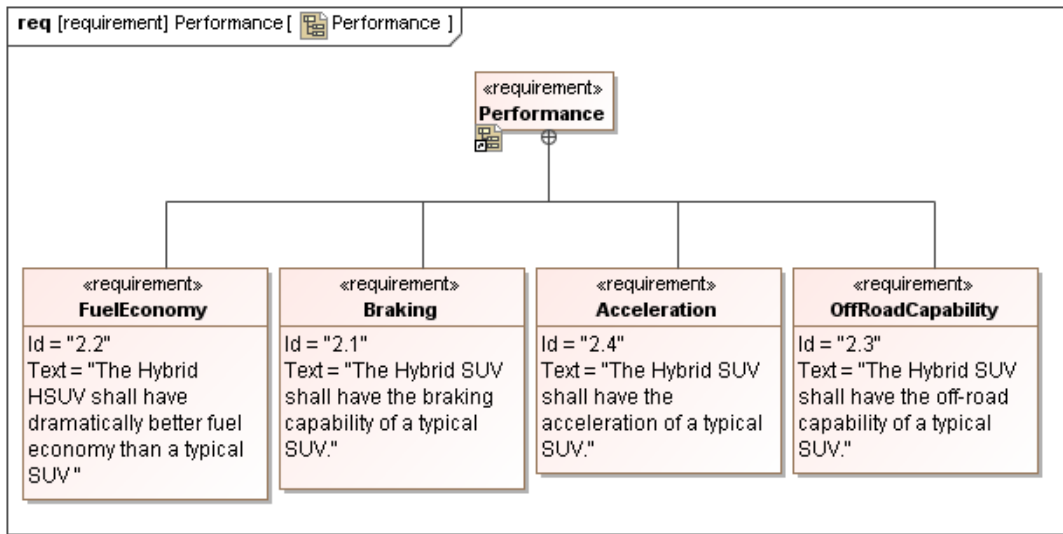

Figure 137 -- SysML Requirement Diagram for Sub-requirements
3. The new SysML requirement diagram for the sub-requirements will then be created (Figure 137) with the same name as that of the selected requirement.